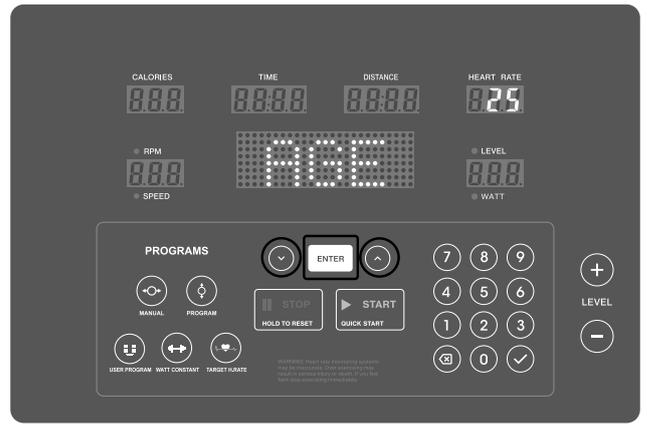

FIGURE 17
3. Set your age using the arrow keys (v/^) (Figure 17).